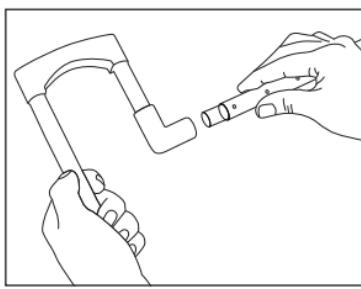
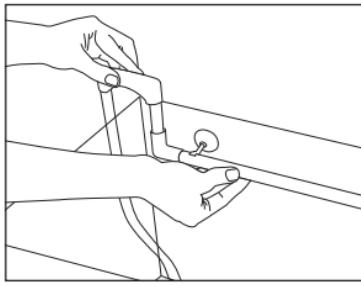

fig 4
fig 6
- Assemble the delivery unit and choose a position for it, if possible at a distance from the suction unit, in order to ensure effective recirculation (fig.4).
- If you wish, you may apply the perforated bar to improve oxygenation at a 90° angle (fig.4 -5), positioning it all in the aquarium at the surface of the water (fig.6).